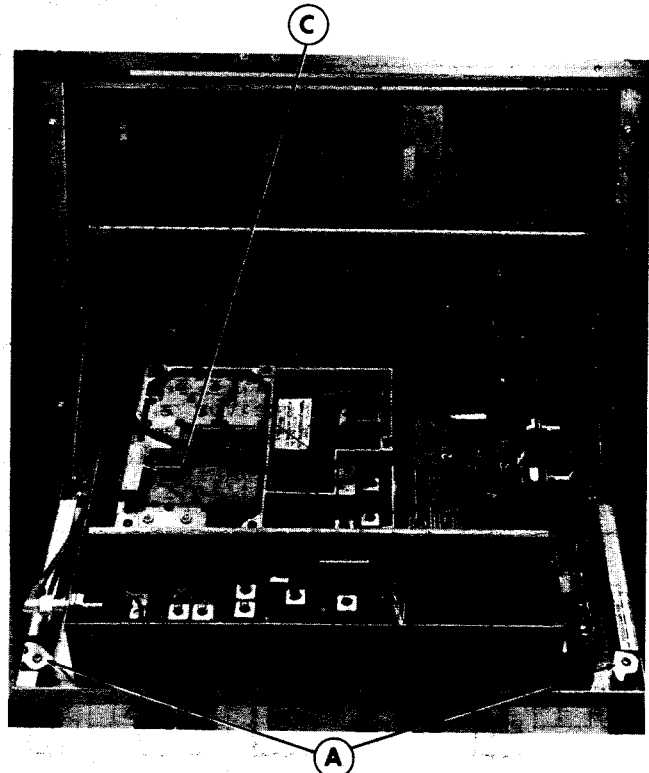
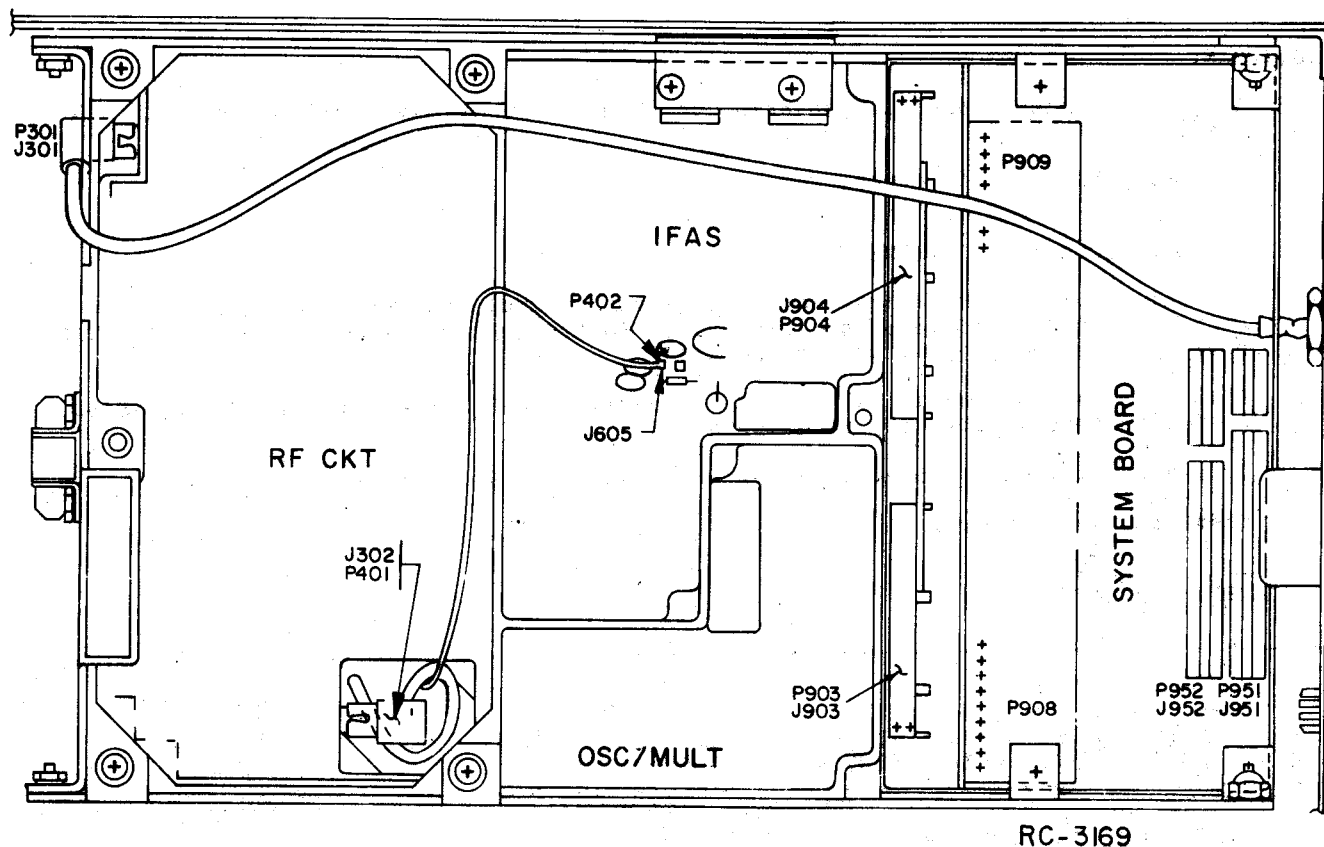

Figure 2 - Access to Receiver (Top & Bottom)
Figure 4 - Receiver Module Location
1. Turn the two latching knobs (A) counterclockwise to unlatch the Radio Housing Front Door. Refer to Figure 2.
2. Turn the two latching knobs (A) counter-clockwise to unlatch the Radio Housing Front Door. Refer to Figure 2.
5. Grasp the Receiver Housing Handle at (C) and swing the Housing out to reveal the bottom side of the receiver.
6. Refer to Figure 4 for Receiver Module location.